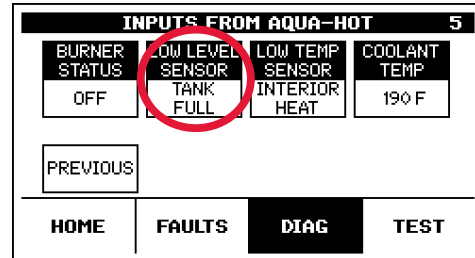

Figure 80
7. Pay attention to the "LOW LEVEL SENSOR" item on this page. See Figure 80: